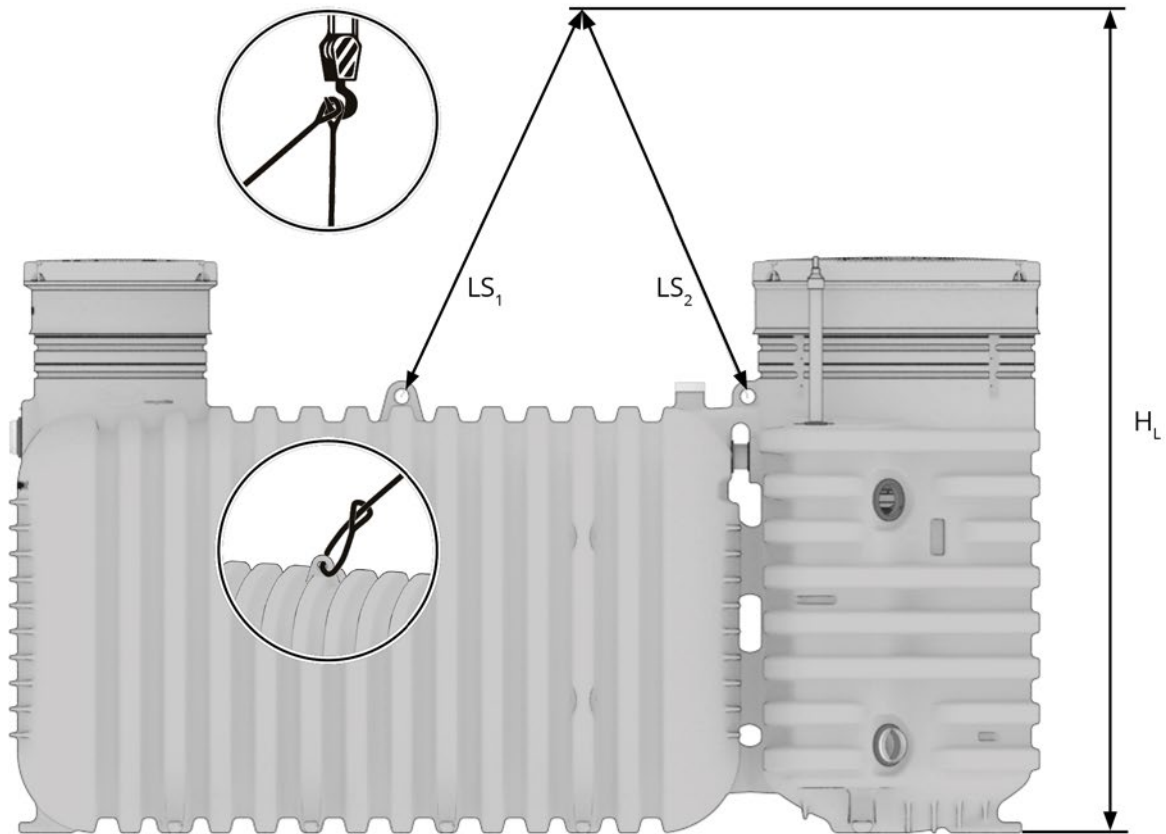

Fig. 1: Lifting points and load suspension with a crane or excavator
- Lift the system only via the two preassembled disposable lifting slings as shown in Fig. 1.